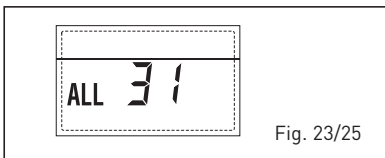

Fig. 23/25
- THREE-ZONE SYSTEM CONFIGURATION ANOMALY "ALL 32" (fig. 23/26)